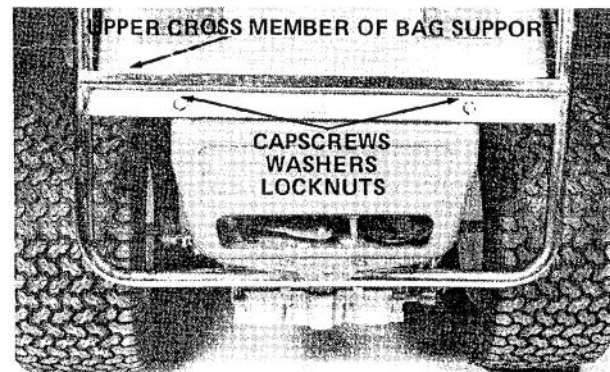

Figure 3
2. Loosely secure upper cross member of bag support to rider with capscrews (1" lg.), washers (11/32" I. D.) and locknuts as shown (Fig. 3).